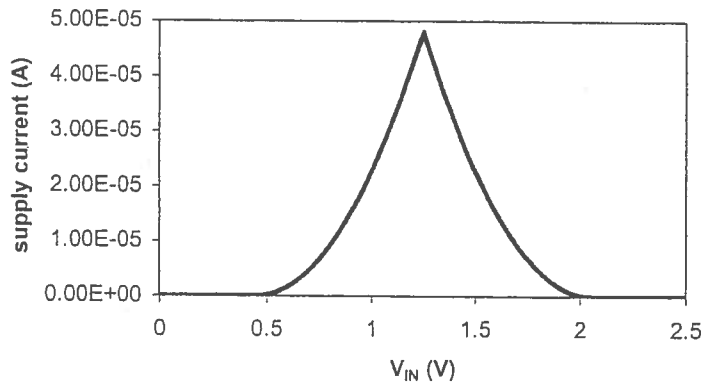

Figure 9.83.
d. The SPICE characteristic is shown in Figure 9.83.